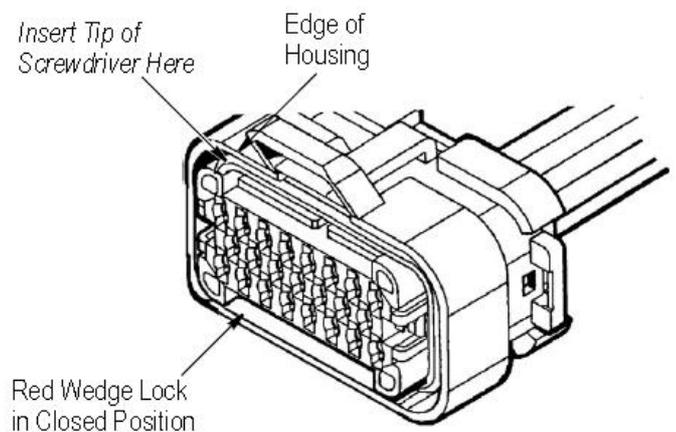

Figure 5
- a. Insert the tip of a screwdriver having a blade between 2 and 5 mm [.078 and .196 in.] wide between the edge of the plug assembly housing and one corner of the red wedge lock. See Figure 5.